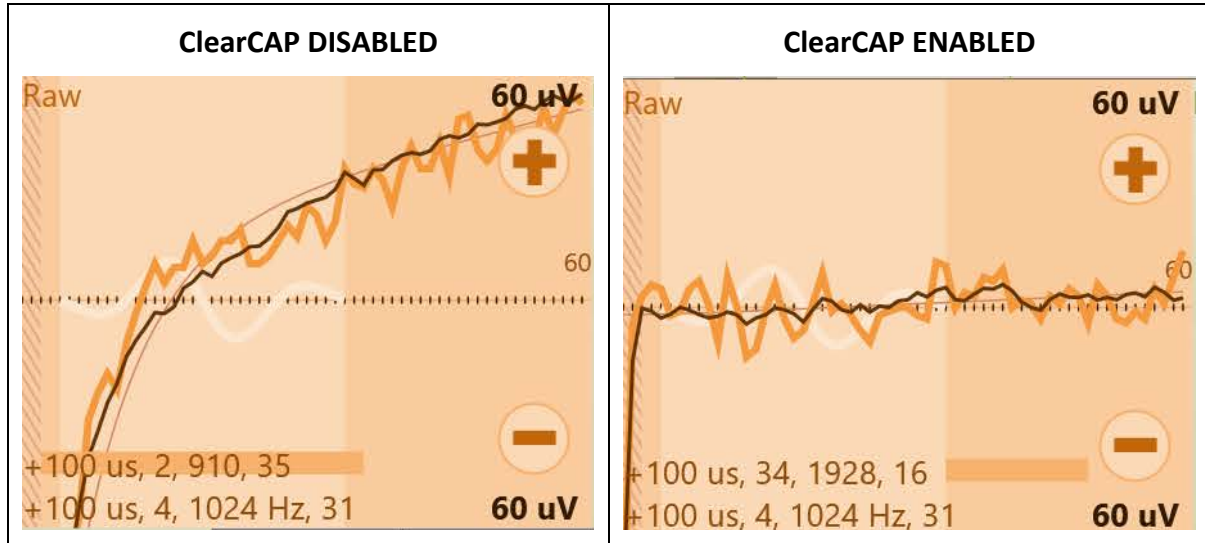

Figure 7.2: ECAP Display plot showing an example of artefact magnitude decreasing when ClearCAP is enabled.
- Artefact magnitude should be reduced with ClearCAP enabled (see Figure 7.2).